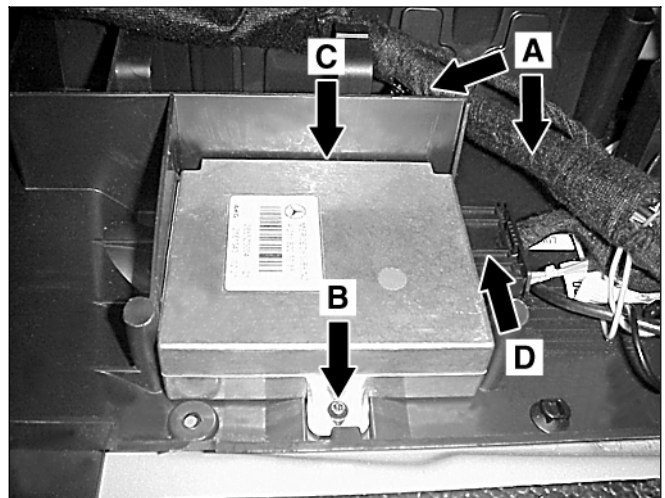

Figure 17
1. Carefully reposition the vehicle harness away from the front of the carrier plate to expose the fastening point of the AKG control module (A, Figure 17—shows harness repositioned).
2. Remove the AKG control module from the left compartment of the carrier plate by removing the T10 Torx screw (B, Figure 17) and then sliding the rear mounting-tab (C, Figure 17—not visible in photo) out of the slot.
3. Disconnect the power cable connector (D, Figure 17).